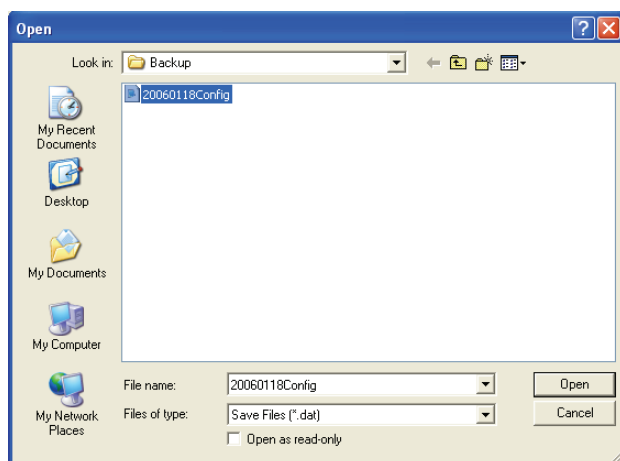

figure 8.24: Open configuration file window
- 1 From the main menu, click the Open configuration file button. The following window will appear (see figure 8.24).